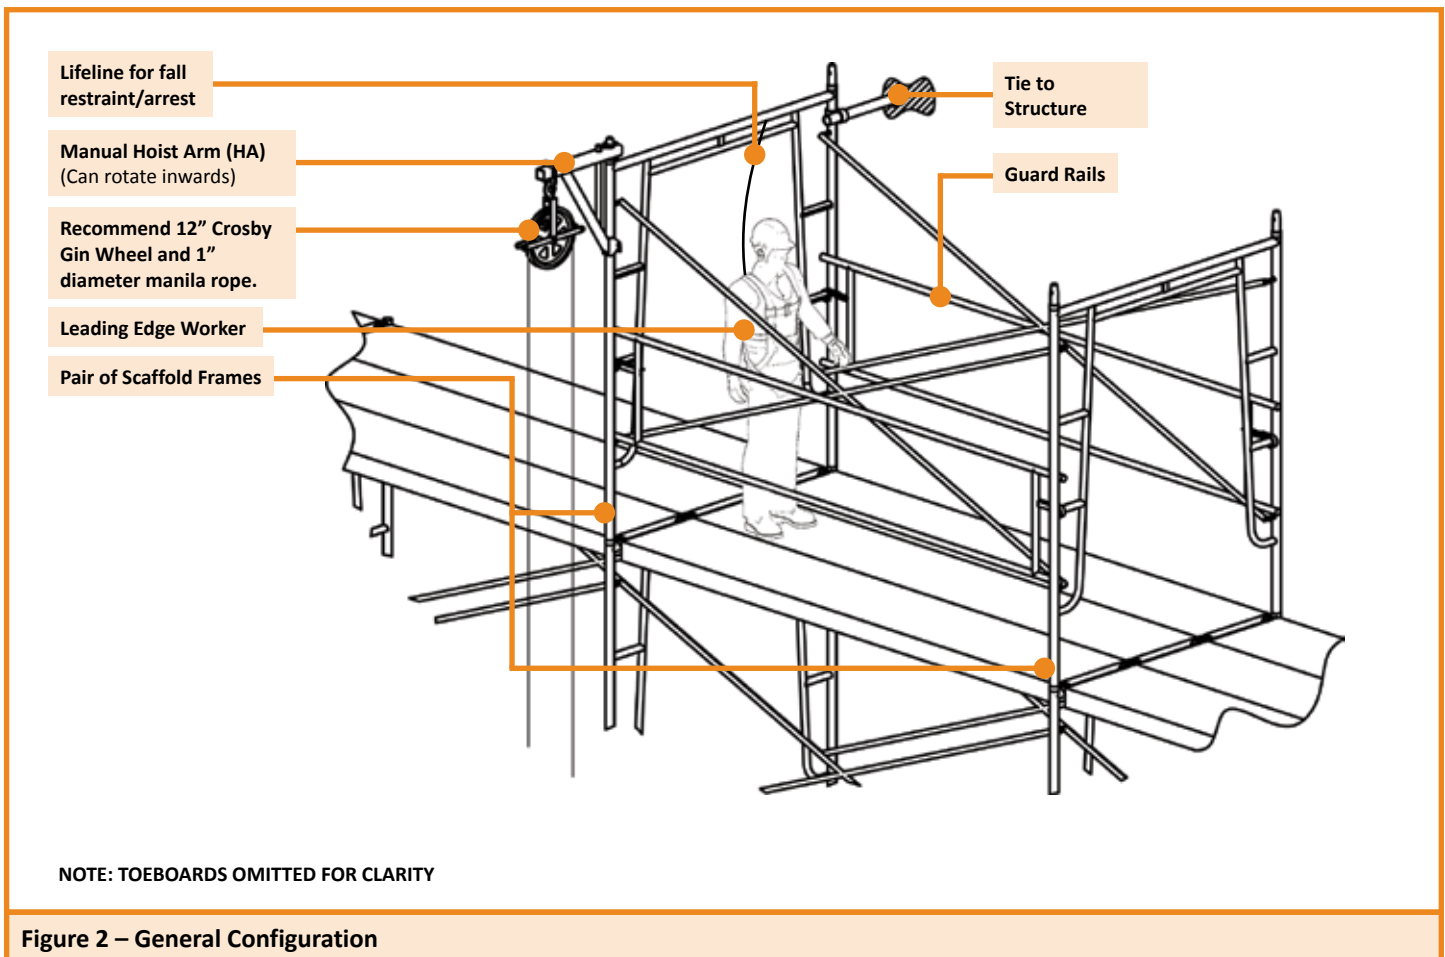

Figure 2 – General Configuration
3. Ensure all coupling pin snap buttons (SB), pigtail pins (PTP) or other locking devices are properly engaged.
4. Install the Manual Hoist Arm (HA) onto the coupling pin (CPS) of a pair of scaffold frames connected by a pair of cross braces. See Figure 2.